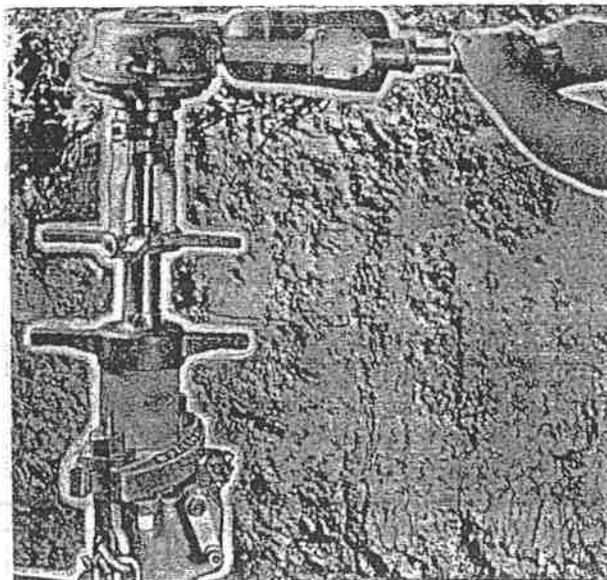
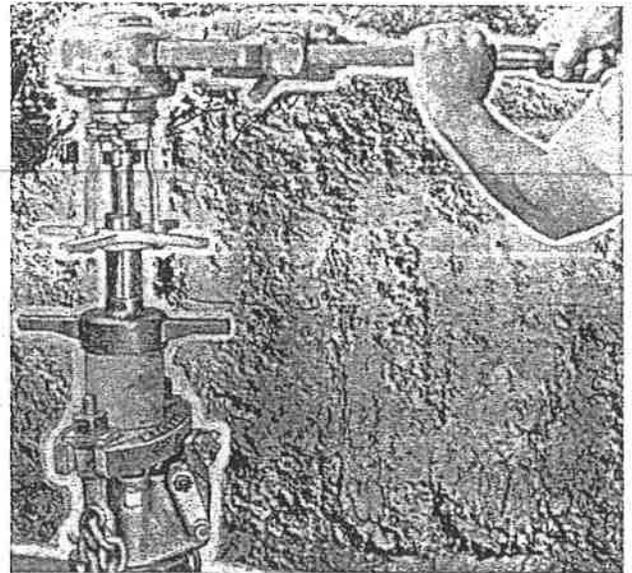

FIGURE 11
FIGURE 12
3. Start drilling operation (FIGURE 11 shows the H-603 Electric Power Operator and FIGURE 12 shows the H-604 Air Power Operator) and continue drilling until drilling operation is completed. Completion of drilling operation can be easily detected by torque required to resist power unit and sound of power unit.